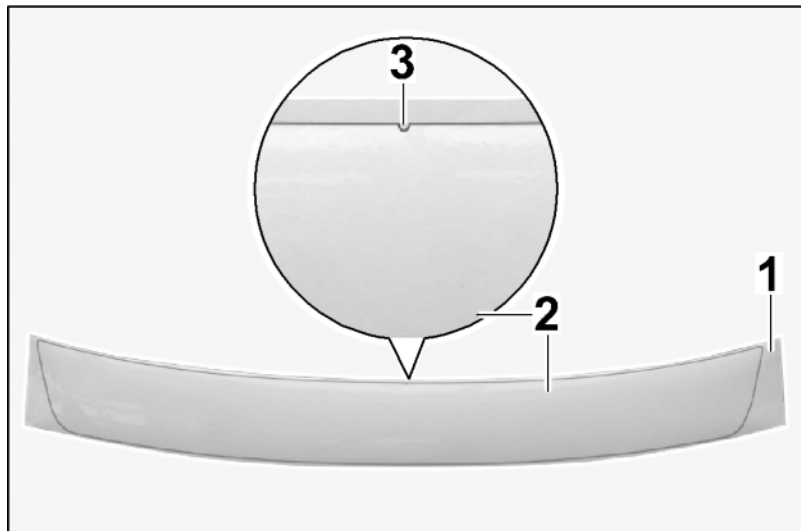

Figure 2
- 1 x Loading sill guard ⇒ Figure 2, comprising:
- 1 – Marking, see also Figure 2, inset